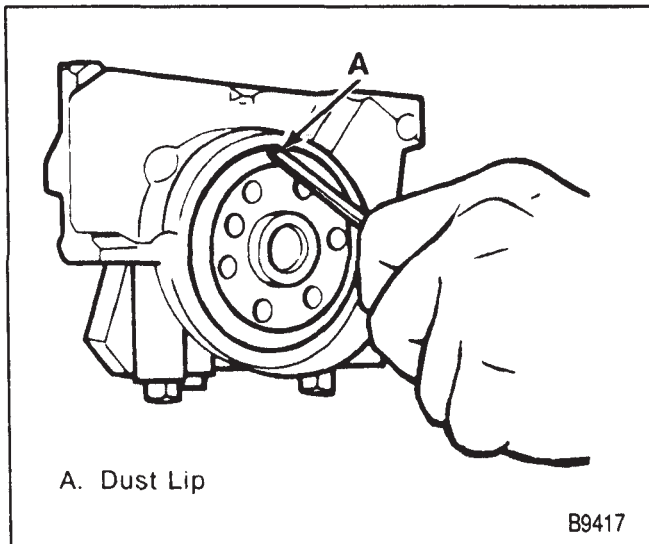

Figure 24—Removing the Crankshaft Rear Oil Seal
- A. Insert a screwdriver or similar tool through the dust lip at an angle (figure 24).